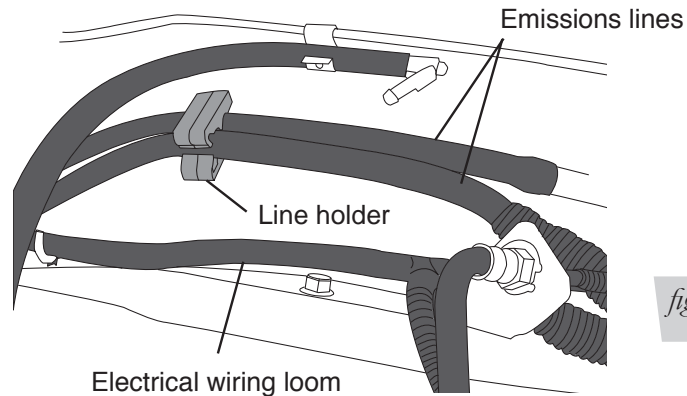

fig. 4
Gas engine models have emission lines on the inside of the frame. If your model truck has emission lines running along the inside of the frame rail (fig. 4), it will be necessary to relocate those lines as follows:
- Carefully push the line holder out of the frame above the axle. Try to minimize damage because it will be reused later. It may also be helpful to remove any holders forward or rearward of the axle to aid in positioning the lines once the upper brace has been installed (fig. 4).